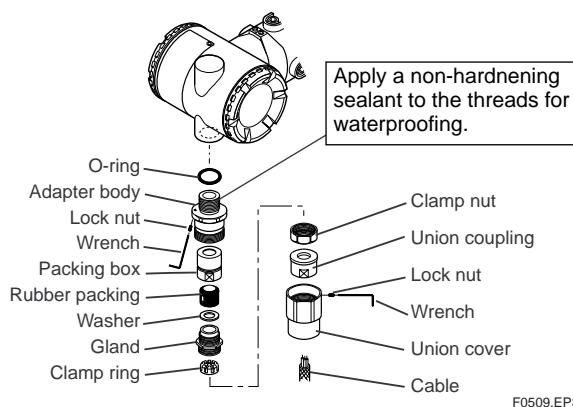

Figure 5.4.2c Installing Flameproof Packing Adapter
- Mounting flameproof packing adapter body to conduit connection (see Figure 5.4.2c)